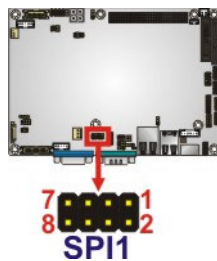

Figure 3-23: SPI Flash Connector
- CN Location:** See **Figure 3-23**